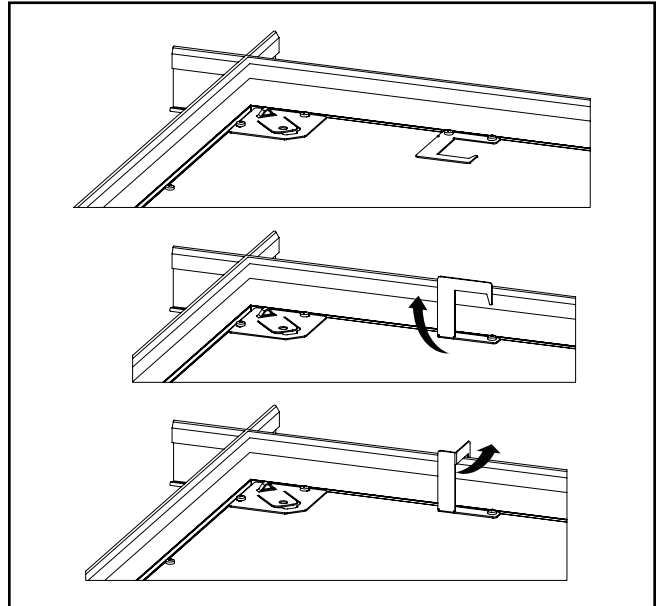

Figure 3.
6. Grid clips are provided for additional retention to ceiling system. Orient tabs on back of fixture over T-GRID by bending tabs up 90 degrees perpendicular to back of fixture. Next bend tabs 90 degrees towards T-GRID frame. (Figure 3.)